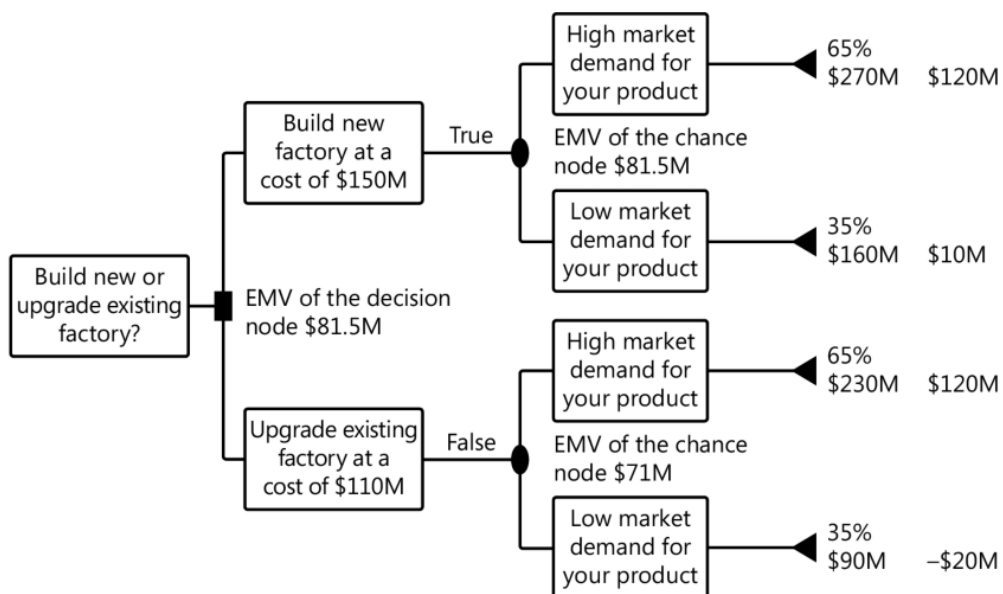

FIGURE 9-10 < A decision tree showing the expected monetary value of a new factory or an upgrade to an existing factory >
3. Consider the decision tree outlining a choice about whether to build a new factory or upgrade an existing factory to take advantage of increased demand for your product. Using expected monetary value analysis, what is the best decision to make? (See the updated decision tree in Figure 9-10.)